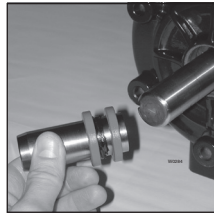

Figure 1
1. Place shaft seals onto the tapered end of the seal protector with a liberal amount of grease in between seals (Figure 1).